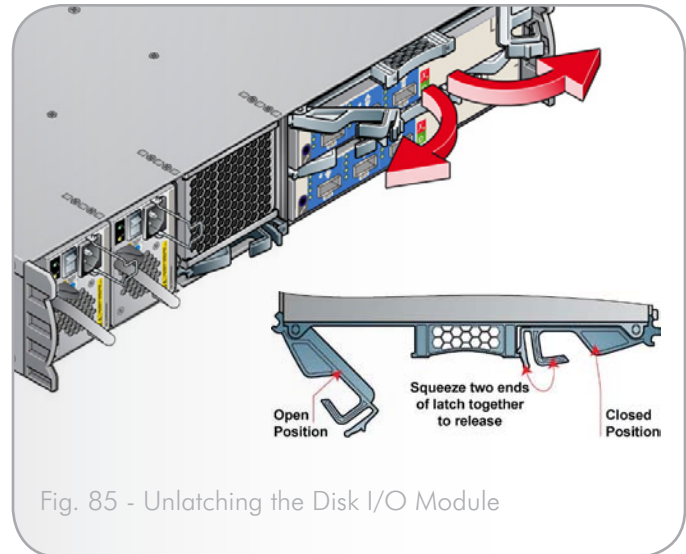

Fig. 85 - Unlatching the Disk I/O Module
3. Pull the latches outward to eject the module out of the enclosure (Fig. 85).